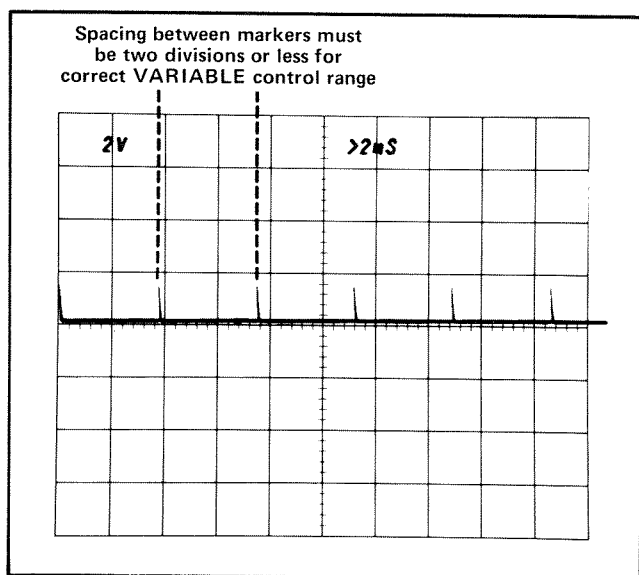

Fig. 5-6. Typical CRT display when checking VARIABLE control range.
c. CHECK—CRT display for a two-division maximum spacing between markers (indicates adequate range for continuously variable sweep rate between the calibrated steps; see Fig. 5-6). Return the VARIABLE TIME/DIV to the CAL IN position.